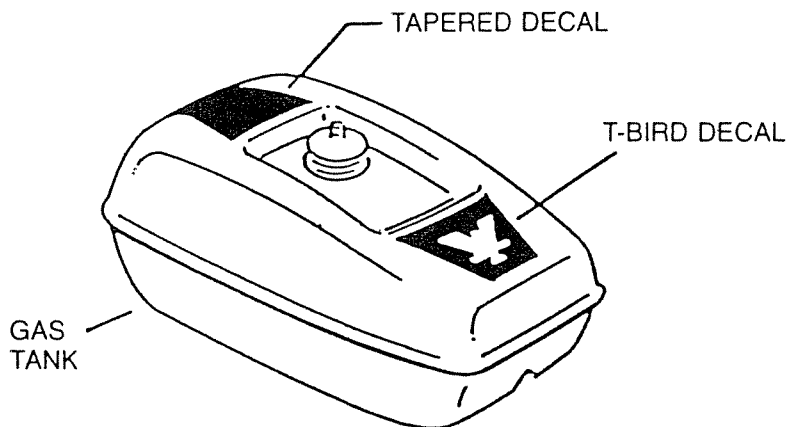

Figure 3: Decal Location
4. Cut the Decal Pad to separate the two Decals. Carefully peel away the heavy paper backing while leaving the Decal attached to the wax paper. Position the Decals as shown in Figure 3 and smooth out any air bubbles. Slowly peel away the wax paper leaving the Decals on the Fuel Tank.
2. Slide one Fuel Line Clamp (REF 29) onto the Fuel Line (REF 46) approximately 2" from the end. Repeat this step using the remaining Fuel Line Clamp and the opposite end of the Fuel Line. Push one end of the Fuel Line completely onto the Fuel Tank Outlet and the other end onto the Carburetor Inlet on the Engine, reference Figure 3 in the Engine Owner's Manual. Slide the Fuel Line Clamps within 1/2" of the ends of the Fuel Line.